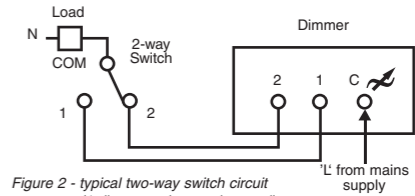
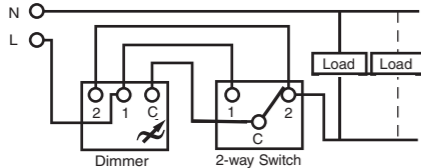

Figure 2 - typical two-way switch circuit (1 dimmer only must be used)
Figure 3 - Alternative connection method for 2 way switching
3. Follow the instructions for installing the dimmer switch in a one-way situation given above, except this time using the circuit shown in either Fig. 2 or Fig. 3, whichever is found to be more suitable.